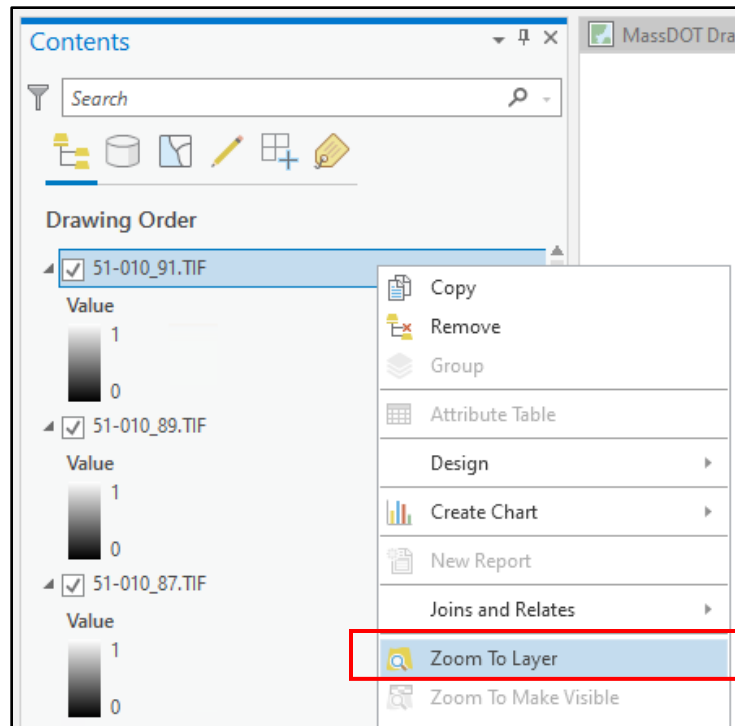

Figure 21
2. In the Contents pane, added georeferenced plans will appear as individual raster layers. Right click and select "Zoom to layer" to zoom to the extents of the record construction plan sheet (Figure 21).